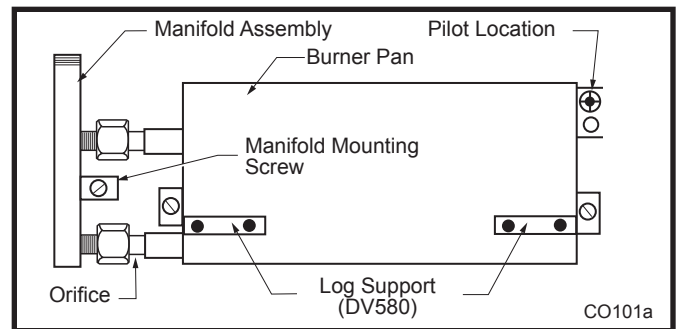

Fig. 62 Remove manifold assembly.
1. Remove manifold mounting screw from burner. (Fig. 62)